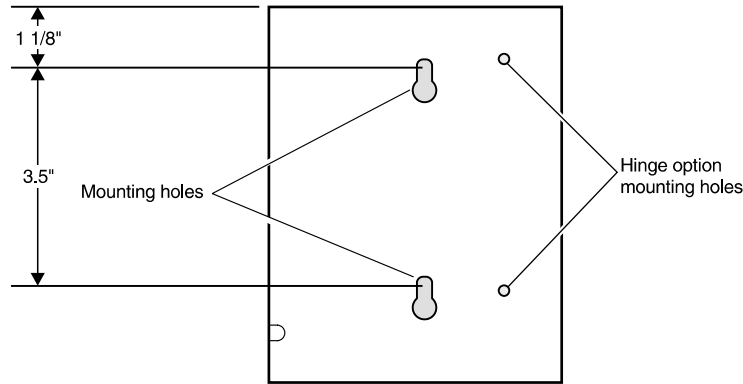

Figure 5. HRE-204 List 1 and List 2 List 1 Backplate
- 5 Use the backplate as a template to mark the wall locations for drilling the mounting holes (Figure 5).